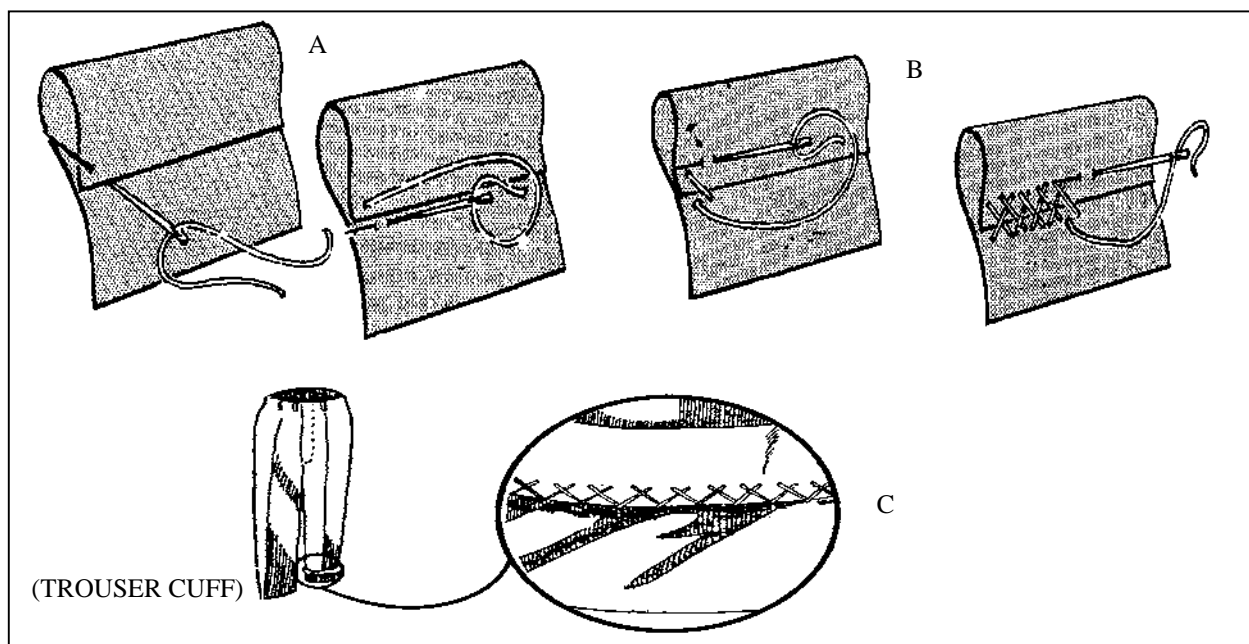

Figure 2-6. Cross stitch
c. Cross Stitch (Catch Stitch). The cross stitch (Figure 2-6) is used to sew raw edges of material to keep it from raveling, as in hems. Cross stitches are blind stitches used in most instances to hem